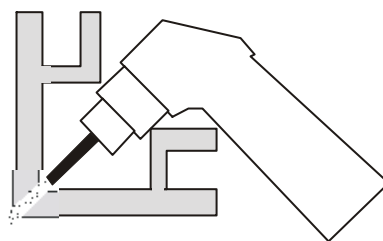

Fig. 5
9. In case of cutting in the corner or around the corner (see Figure 5), use the long electrode and cutting tip. The cutting power while using the Long cutting tip is decreased.